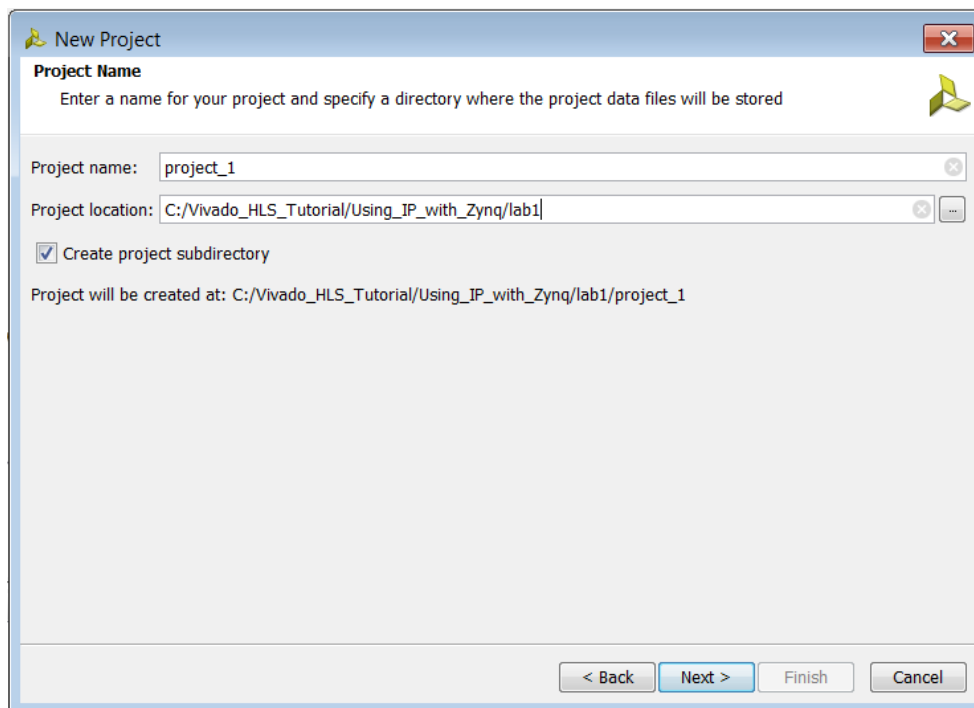

Figure 218: Specify the Vivado Project Directory
- b. In the Project Location text entry box, browse to the location of the tutorial file directory and click **Next** (Figure 218).